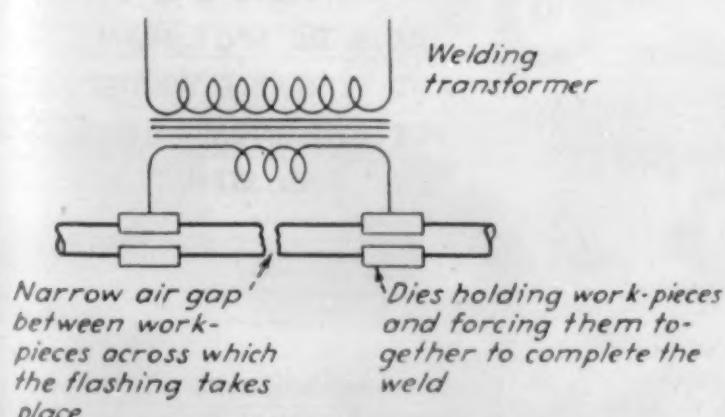

Fig. 1. Schematic Diagram of Flash Welding
**Flash Welding**—Flash welding as used for joining metallic parts end to end, such as welding sheets of steel together to form one continuous strip, the welding of circled strips or bars to form rings, the welding of tubular sections end to end, and the welding of sheet stock to form tubing. To weld by this method, two parts are placed end to end with a narrow air gap between them (See Fig. 1). The passage of the current across this gap creates a "flashing" action. That is, uneven edges of the adjacent pieces are quickly burned away but the heating effect of the current — this continues until both surfaces have reached the fusion point. Then, with the sudden application of pressure, the two pieces are forced together, forming a strong weld. The resulting upset is small.